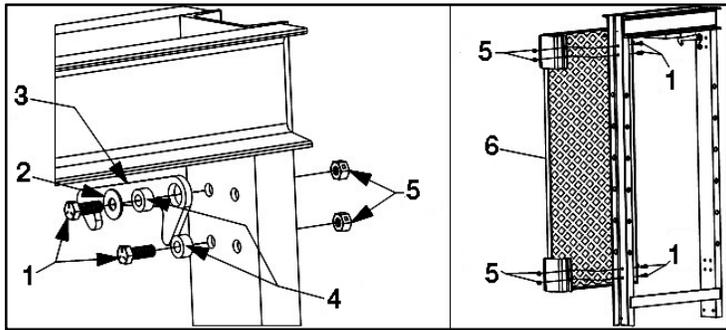

Fig. 13: Guard installation
2. Place a Spacer [#4] inside the bore of the Latch Pawl [#3] as shown in Fig. 13. Attach these two parts to the press using a Cap screw [#1], Washer [#2], and Nut [#5] as shown.
3. Swing the Latch Pawl [#3] upward so the tab is positioned approximately as shown in Fig. 13. Install the second Spacer [#4], which acts as a travel stop for the Latch Pawl [#3], using a Cap screw [#1] and Nut [#5].
4. The Guard Panel [#6] is installed as shown in Fig. 13 using four Cap screws [#1] and four Nuts [#5]. Before fully tightening the Nuts [#5], check the alignment of the pin on the Guard Panel [#6] with the Latch Pawl [#3] and also check that the gap between the Guard Panel [#6] and the press is consistent at the top and bottom.